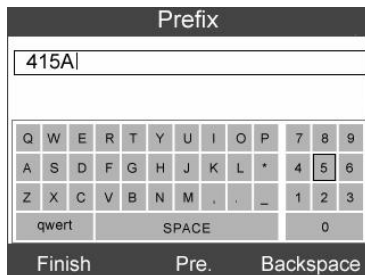

Figure 4.6
**[Edit]**: Press this key to pop up a soft keyboard to facilitate your input. (Figure 4.6)